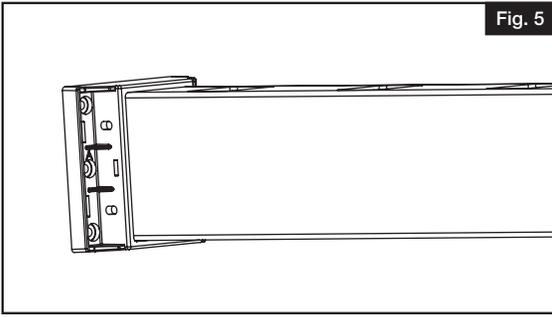

Fig. 5
Cut two 2" temporary wood spacer blocks (not included) to insert under ends of railing sections to temporarily assist in aligning railing section (Fig. 5).
- a. Place brackets onto both ends of bottom rail (Fig. 5).